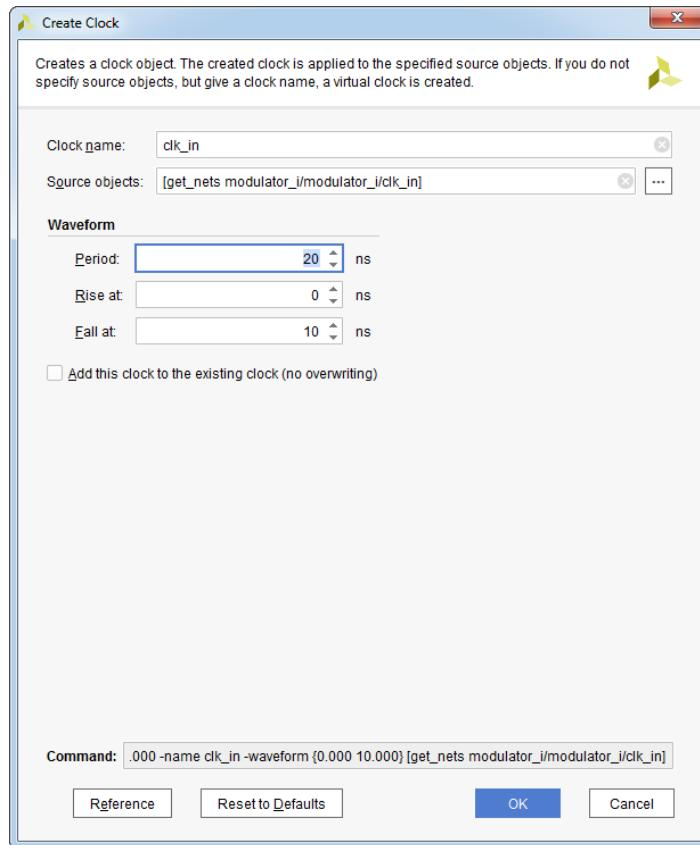

Figure 10.17: Create Clock dialog box after specifying the period for the clk_in
6. In the **Create Clock** dialog box, specify the period by setting the period property of the clock. In this step, you will describe the period property and review the waveform details of the clock objects, see Figure 10.17: